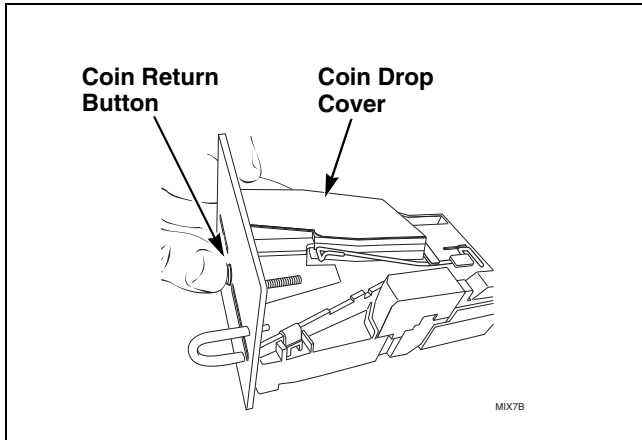

Figure 2
- (1) Push coin return button to open and close coin drop cover to clear possible coin jams. Refer to *Figure 2*.